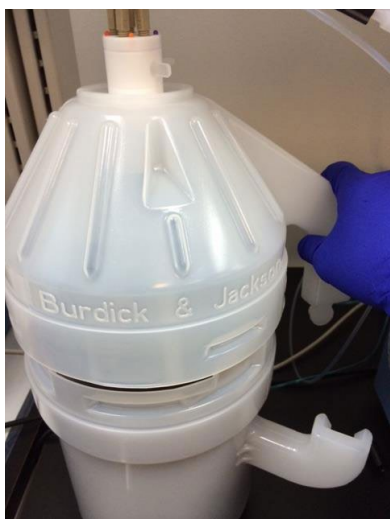

Figure 8. Pressure reservoir.
- a. Open the top of the protective cover on the pressure reservoir (Figure 8). Be careful not to misplace the O-ring or damage the tubes coming from the lid.